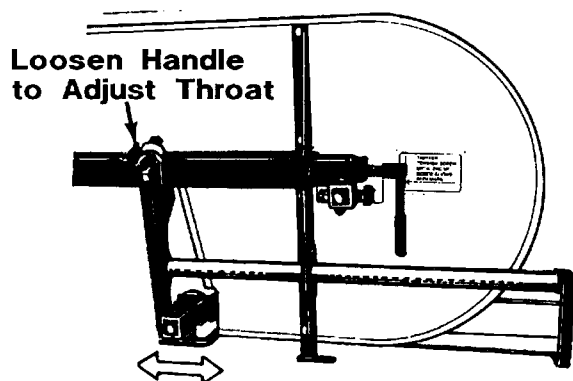

FIG 3-6
8. Adjust the width of the throat by sighting down the log to determine its maximum width. The outer blade guide should be adjusted to clear the widest section of the log by less than 1". This is done by loosening the clamping knob and sliding the movable blade guide horizontally in or out as necessary (See Figure 3-6). **NEVER** adjust the throat width while the blade is moving.